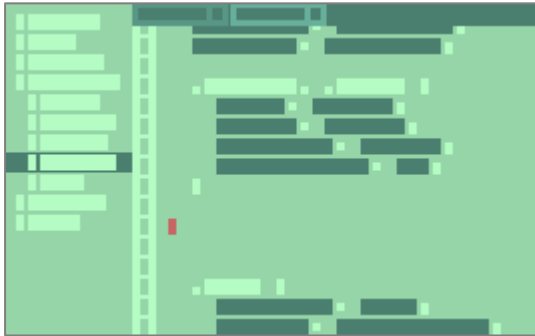

Figure 2.2
- Click FLAVOR to start the software installation program, then pop up the running dynamic diagram, and complete the installation with one click. As shown in Figure 2.2.